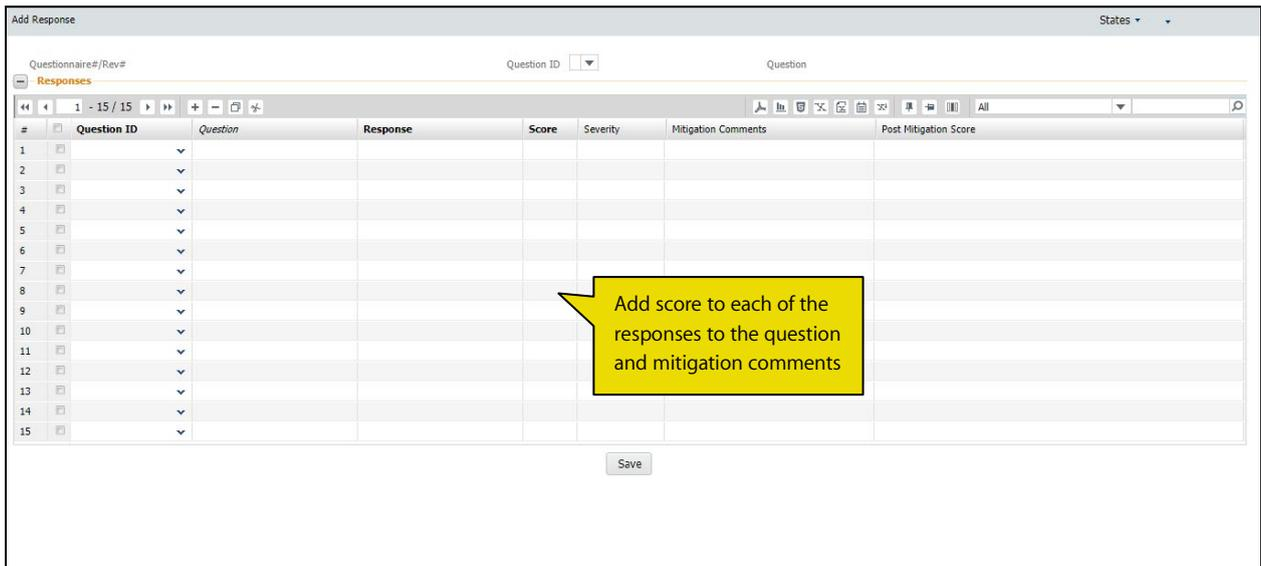

Figure: 3.5: The screen for defining responses and scores for questions in questionnaire
1. Select the **Add Responses** link at the bottom of the **Maintain Risk Assessment Questionnaire** screen. The “Risk Questionnaire Response” page appears. See Figure 3.5.